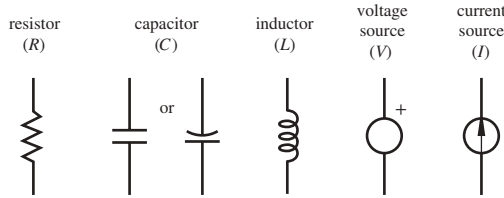
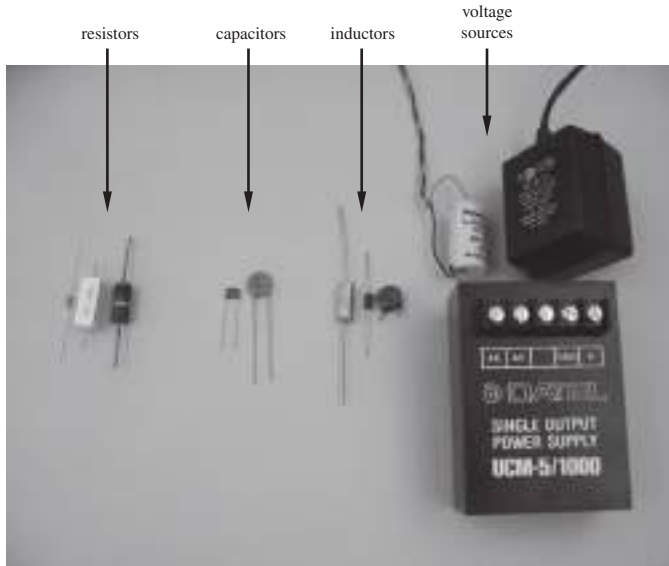

Figure 2.3 Schematic symbols for basic electrical elements.
Figure 2.4 Examples of basic circuit elements.
There are three basic passive electrical elements: the resistor (R), capacitor (C), and inductor (L). Passive elements require no additional power supply, unlike active devices such as integrated circuits. The passive elements are defined by their voltage–current relationships, as summarized below, and the symbols used to represent them in circuit schematics are shown in Figure 2.3.
There are two types of ideal energy sources: a **voltage source** (V) and a **current source** (I). These ideal sources contain no internal resistance, inductance, or capacitance. Figure 2.3 also illustrates the schematic symbols for ideal sources. Figure 2.4 shows some examples of actual components that correspond to the symbols in Figure 2.3. Video Demo 2.1 shows more examples and explains what they do and how they work.